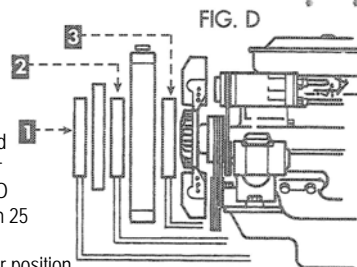

FIG. 1
2. Position clamps ¼ - ¾ inch from end of hose. Tighten clamps until rubber protrudes level with clamp slots. DO NOT over tighten clamps (Maximum 25 inch pounds torque). (FIG 1)